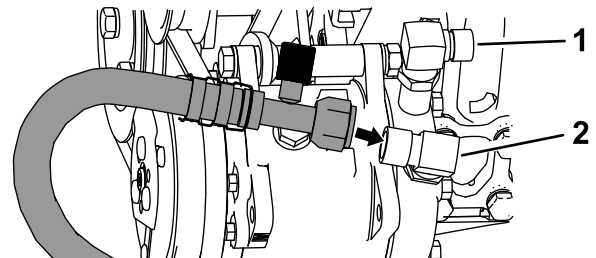
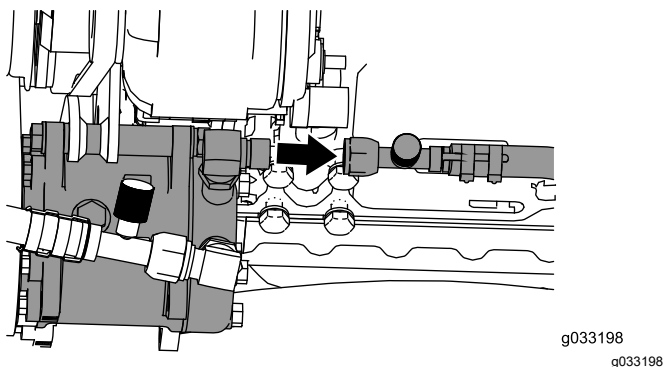

Figure 40
Figure 41
Note: Ensure the fittings are installed at the angles shown in Figure 40 and Figure 41.
1. Connect the air-conditioning low-pressure hose (7/8 inch) from the cab unit to the right-angle fitting (7/8 inch) as shown in Figure 40.
3. Connect the air-conditioning high-pressure hose (3/4 inch) from the cab to the right-angle fitting (3/4 inch) as shown in Figure 41.